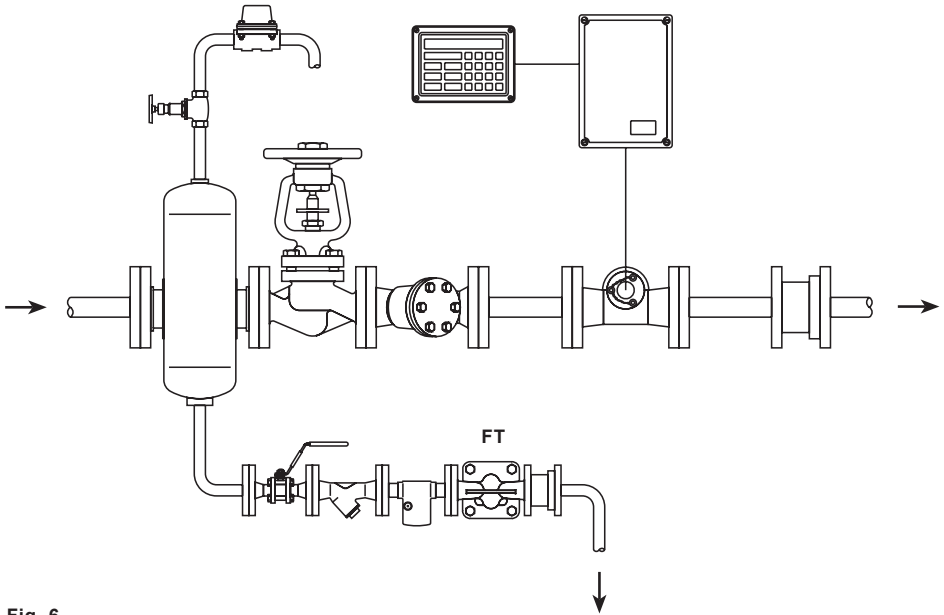

Fig. 6
- 3.5 The trap should be fitted below the outlet of the steam system, with a small drop leg immediately proceeding the trap, typically 150 mm (6") see Figure 6. If no drop leg is allowed for then it may be possible (under low load conditions) for steam to flow over the condensate in the bottom of the pipe and reach the trap.